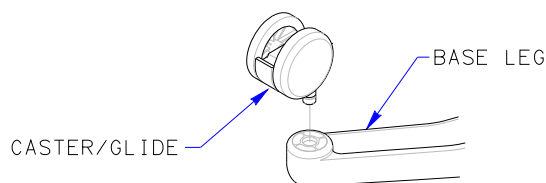

FIGURE 1
5. INSERT CASTERS/GLIDES INTO BASE UNTIL FULLY ENGAGED. SEE FIGURE 1.